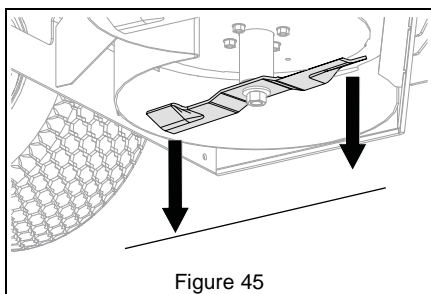

Figure 45
3. On both sides of the unit, measure the distance to the ground at the front and rear tip of the blade. See Figure 45.